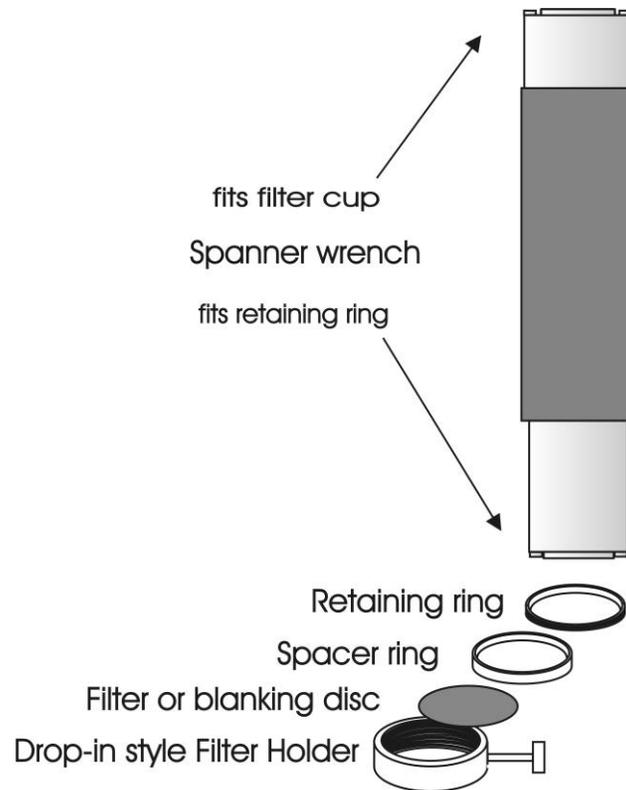

Figure 2-4. Filter holder components.
There are at least two components installed into each filter cup or holder before the LAMBDA 10-B is shipped: A threaded retaining ring to secure the filter into the cup (or holder), and a spacer ring. In all but one of the filter cups, and in one of the filter holders, there will also be a blanking disc. Figure 2-4 depicts these items using the drop-in filter holder as an example.
- **Retaining Ring.** This ring is threaded on its outside surface and has two slots on its top edge. The purpose of the two slots is for the removal and installation of the retaining ring when using the retaining ring driver or spanner wrench that is provided with the LAMBDA 10-B (shown in Figure 2-4). Note how the design of the spanner wrench differs between 25-, 32-, and 50-mm filter sizes.